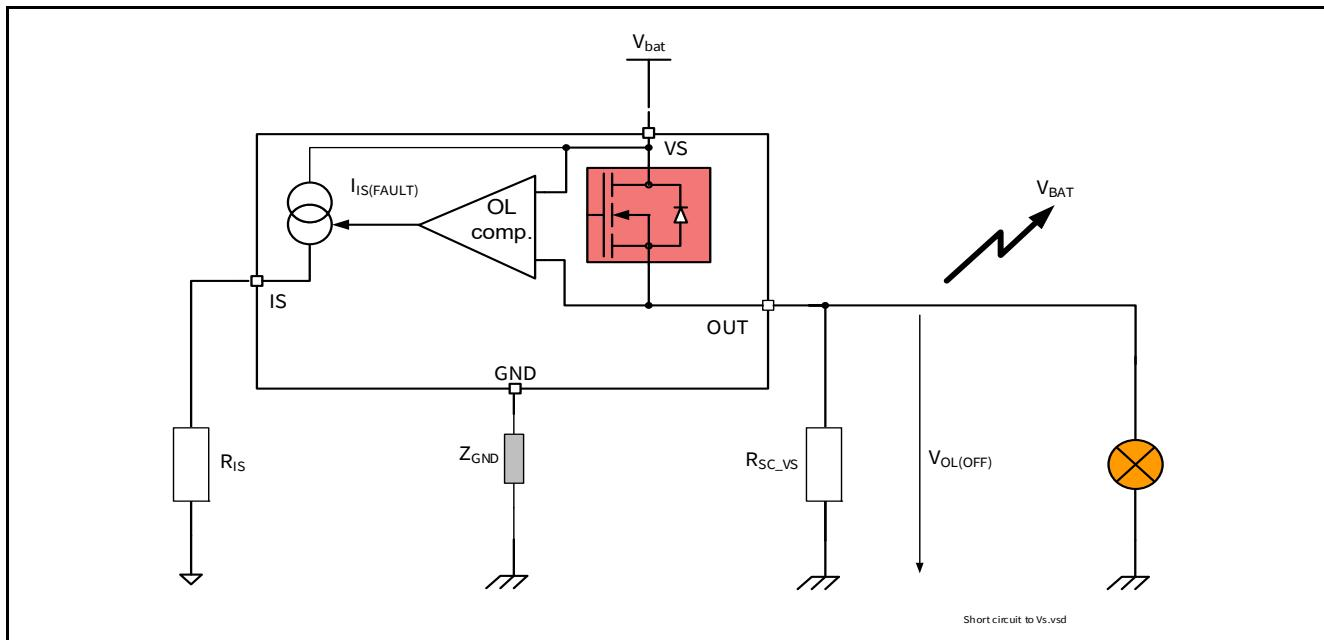

**Figure 26 SENSE Signal in Open Load Timing**
**Figure 26** shows the timing during either Open Load in ON or OFF condition when the DEN pin is HIGH. Please note that a delay  $t_{SIS(FAULT\_OL\_OFF)}$  has to be respected after the falling edge of the input, when applying an open load in OFF diagnosis request, otherwise the diagnosis can be wrong.